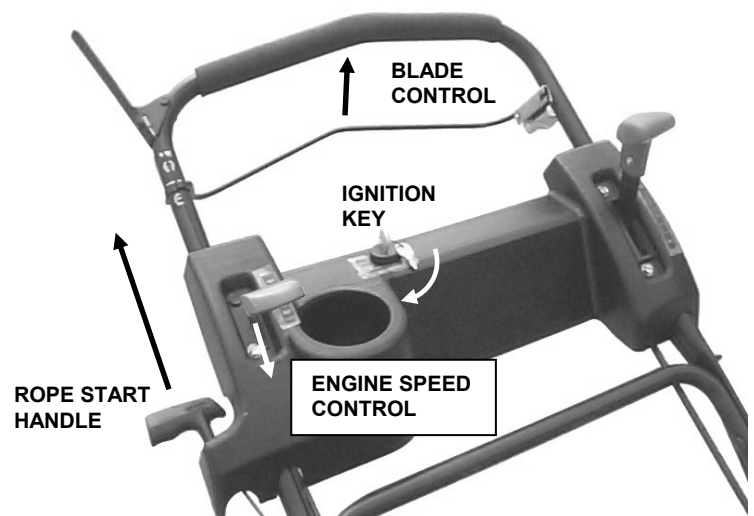

FIGURE 2.4
1. Move engine speed control to "Fast" (Rabbit) position. See Figure 2.4 and "FAMILIARIZATION".
2. Move engine speed control past "Fast" detent to "Choke" position. See Figure 2.4 and "FAMILIARIZATION".